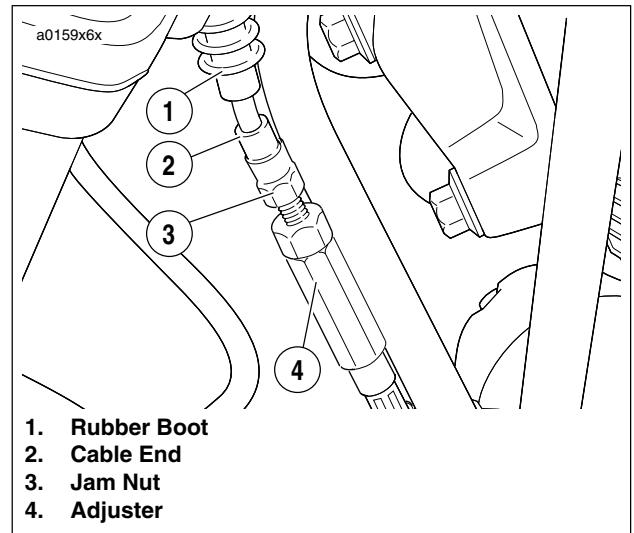

Figure 6-13. Clutch Cable Adjuster Mechanism
3. See Figure 6-13. Slide rubber boot (1) upward to expose adjuster mechanism. Loosen jam nut (3) from adjuster (4). Turn adjuster to shorten cable housing until there is a large amount of freeplay at clutch hand lever.
- b. See Figure 6-13. Set freeplay by turning adjuster (4).
- c. Tighten jam nut (3) against adjuster (4).
- d. Slide boot (1) over cable adjuster mechanism.